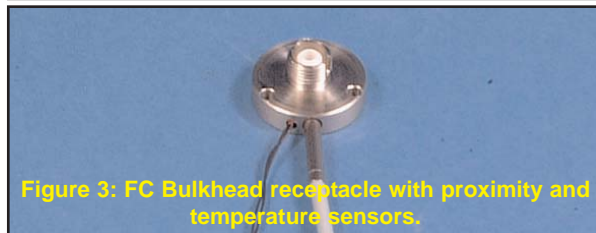

Figure 3: FC Bulkhead receptacle with proximity and temperature sensors.
- FC or SMA Bulkhead connectors (for free space to multimode fiber coupling situations) - See Figure 3